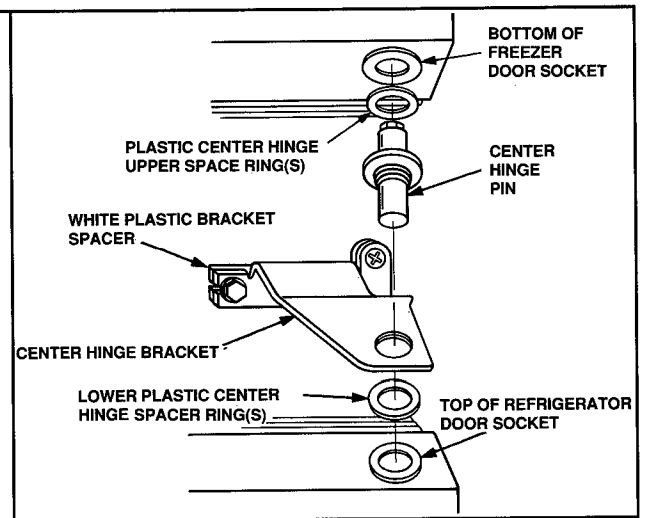

Figure 20
- a. Install all of the plastic center spacer ring(s) in the same position as in Steps 4a, 4d, and 6a. See Figure 20.